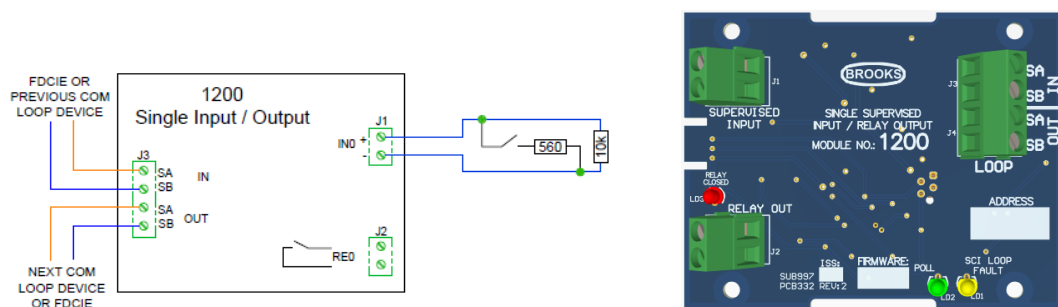
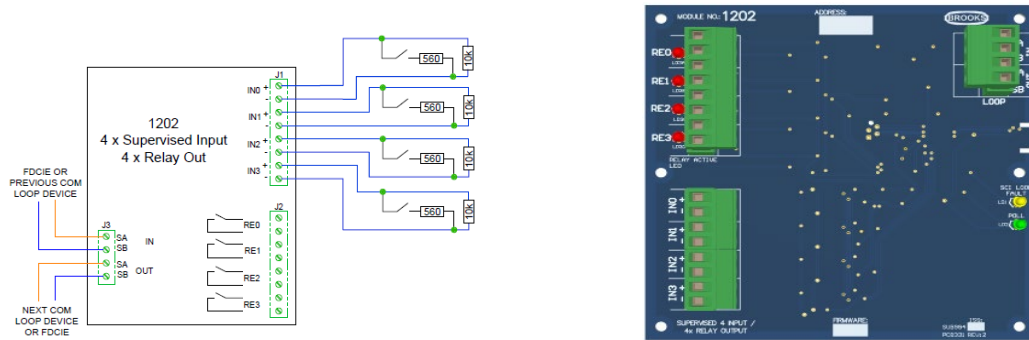
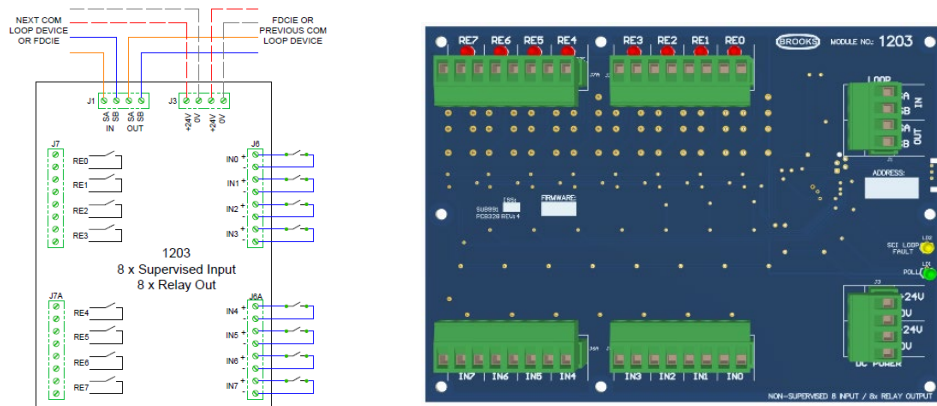

Figure 16 Single I/O 1200 connection and SUB997 PCB
Figure 17 4/4 1204 I/O SUB994
Figure 18 8/8 1203 I/O SUB991
The module is a single supervised programmable input / single programmable relay output as shown in Figure 16 below. Used where a single device needs to be triggered (output) and a return signal is required to report that the action has been carried out (input), e.g. a sprinkler flow switch.
1202 or SUB994 comprises four programmable supervised inputs and four programmable relay outputs. The functions and programming of each input or output is identical to 1200 I/O module. Connection is similar to 1200 module shown in Figure 16 above, the PCB and connection diagram are shown in Figure 17 below. The supervised input requires 10K end of line resistor.
1203 – SUB991 I/O unit is designed to provide 8 x programmable non-supervised inputs and 8 x programmable relay outputs, no end of line resistor required. The relays are non-latching relays which requires external 24VDC supply. Connection is similar to 1200 shown in Figure 16 page 39 but inputs are not supervised. The physical SUB991 board is shown in Figure 18 below. 1203 requires two consecutive addresses on the COM loop set in "Advanced Mode (3)".